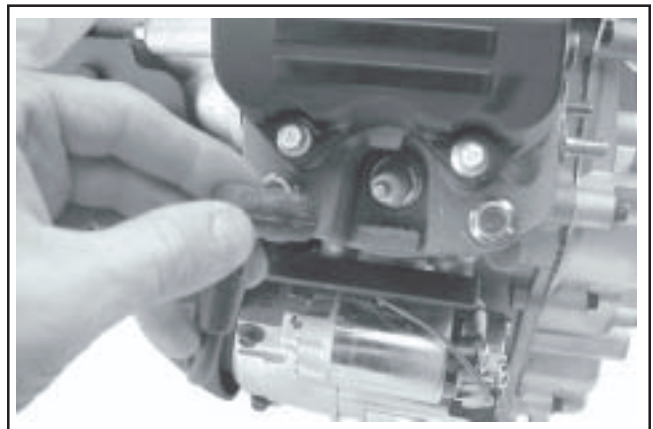

Figure 9-1. Disconnecting Spark Plug Leads.
1. Disconnect the leads from the spark plugs. See Figure 9-1.